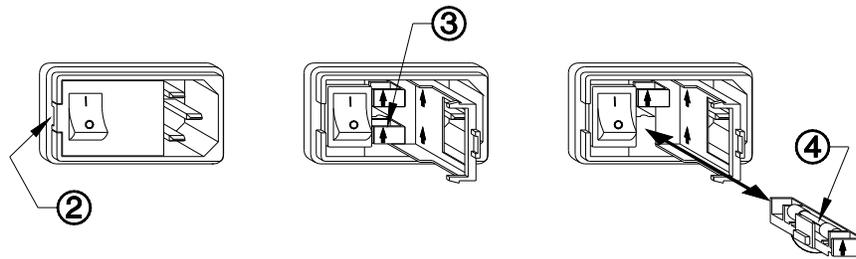

Figure 15-1 Readout Fuse Replacement
2. Insert the tip of a small flat bladed screwdriver into the notch of the power entry module just to the left of the switch. Twist the screwdriver to open the fuse cover door. (Refer to Figure 15-1 Readout Fuse Replacement).